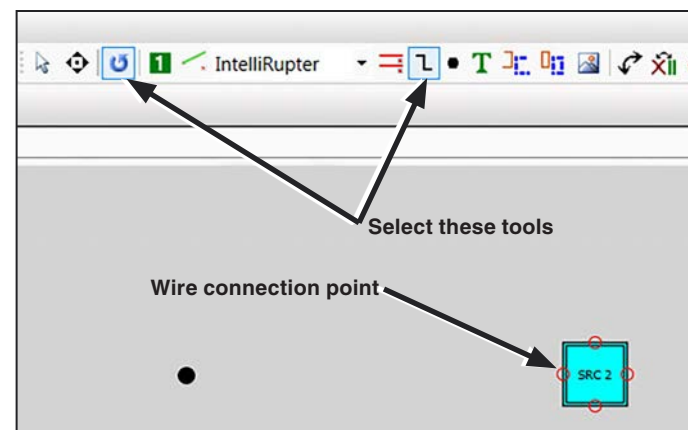

Figure 43. Wire termination points shown with the Add Wire tool.
STEP 2. Click the Repeat Insert tool and the Add Wire tool. Now, when hovering the mouse cursor above a wire connection point or a source, the wire termination points will change, as shown in Figure 43.